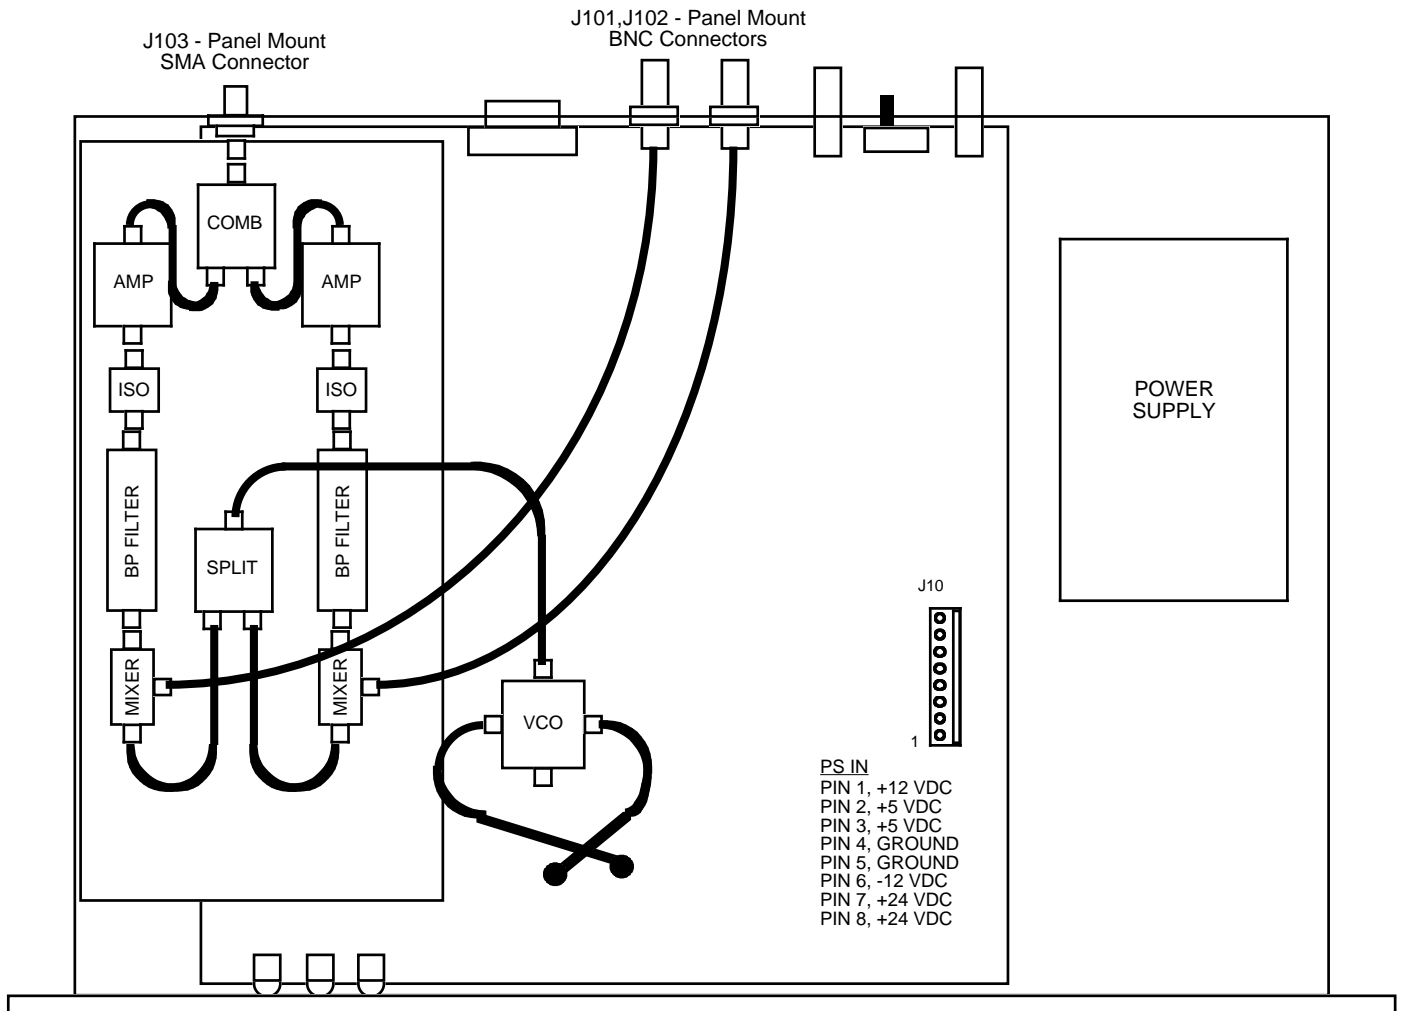

FIGURE 2.0 2115-202 Mechanical Assembly
2.1 Mechanical - The 2115-202 consists of one RF PCB and a number of RF modules housed in a 1 RU (1 3/4 inch high) by 12 inch deep chassis. A switching, ± 12 , +24, +5 VDC power supply provides power for the assemblies. The 2115-202 can be secured to a rack using the 4 holes on the front panel. Figure 2.0 shows how the 2115-202 is assembled.